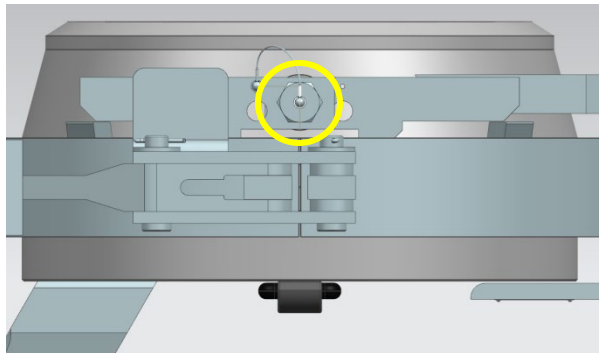

Figure 9: Pressure Warning Lock
- B. Remove the pressure warning lock from closure and monitor for signs of pressure release, see Figure 9.